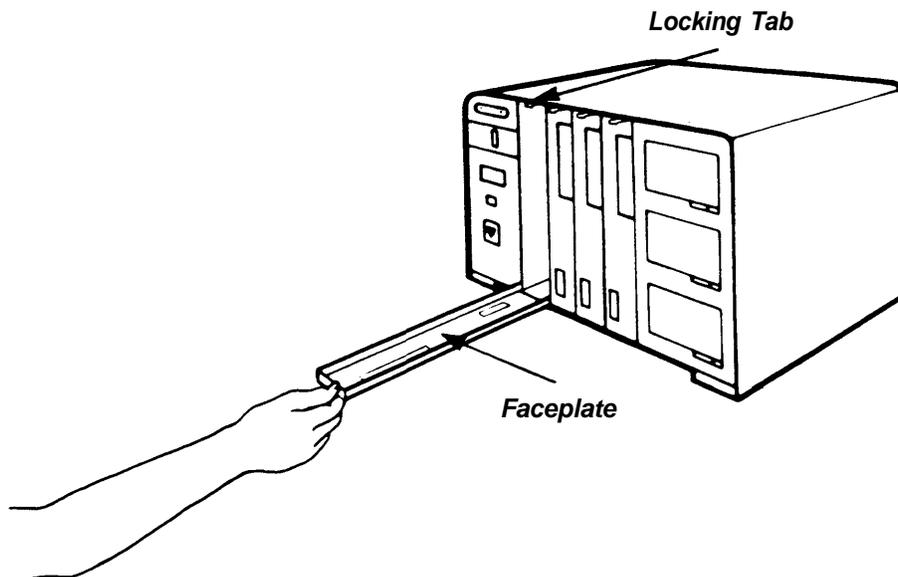

Figure 4.
4. Grasp the handle on the faceplate of the module slot and pull it open (Figure 4). Do not remove the faceplate.